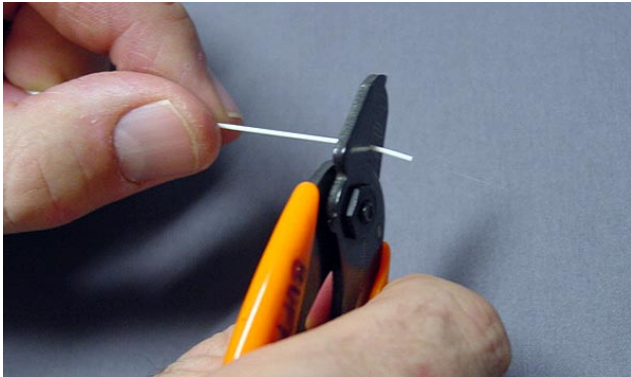

Figure 9
7. Using the combination strip tool, strip the buffer approximately 6 mm [.250 in.] at a time until you reach the mark. Repeat for the second end. See Figure 9.